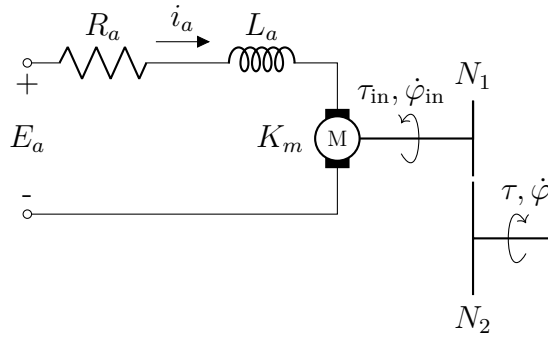

Figure 2: Schematic of a DC motor with a gearbox
A non-ideal motor with gearbox as shown in Figure 2 is commonly modeled to understand the performance of the motor system under realistic conditions. In real-world scenarios, motors are rarely ideal; they experience friction, winding resistance, and inductance, which all have an impact on their performance. Similarly, gearboxes introduce additional non-idealities like friction, backlash, and mechanical losses, which also affect the motor's overall performance.
1. Sketch the torque-current characteristic in (19) of the DC motor with a deadband zone.
2. Use that the voltage over the motor is given by  $V_m = K_m \dot{\varphi}_i$  and perform Kirchoff's current law around the circuit in Figure 2 to relate the armature current  $i_a$ , motor voltage  $E_a$ , and the angular velocity of the motor shaft  $\dot{\varphi}_i$ .
3. Express the armature current  $i_a$  as a function of the output torque  $\tau$  using the non-ideal gearbox model in (19).